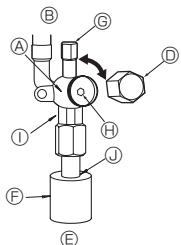

Fig. 4-5
- ① Gas/Liquid side of ZM71 (Fig. 4-5)
- ① Remove the cap and turn the valve rod counterclockwise as far as it will go with the use of a 4 mm hexagonal wrench. Stop turning when it hits the stopper.